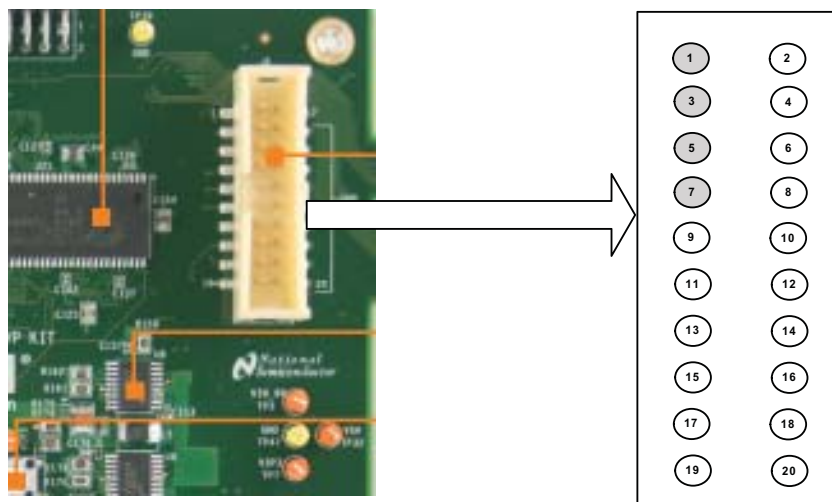

Figure 2-11 • J5 Connector on M1AF5-ADV-DEV-KIT Board
3. Connect the 22-pin cable supplied with Silicon Explorer II (for 18 channels, a clock, V_{CC}, GND, and clock GND) to the Silicon Explorer II hardware, and connect the first 4 channels to the pins in the J5 connector (Table 2-3 and Figure 2-11).